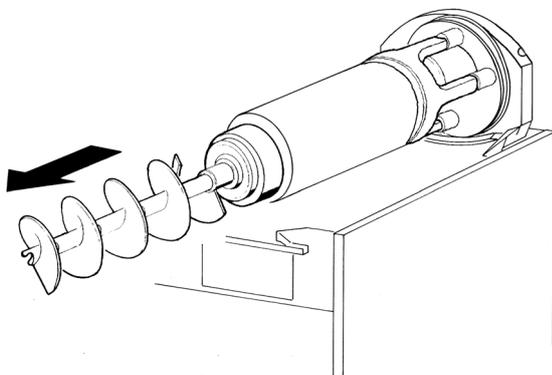

**figure 6**
- 2** Remove the bowl by lifting its faucet side up and off the fastening hooks (see figure 5) and slide it out (see figure 6).